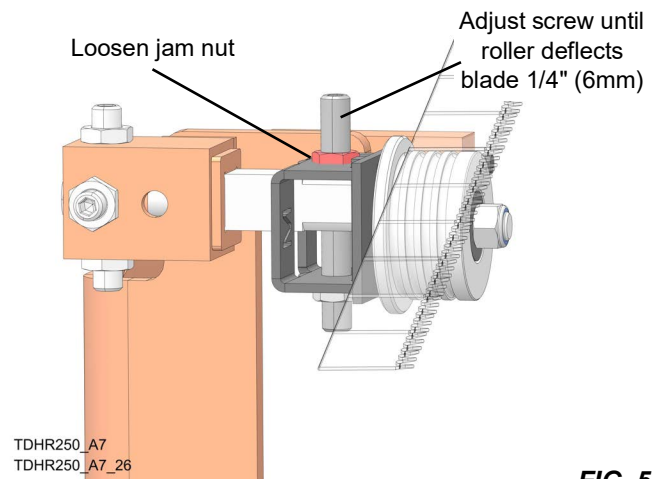

FIG. 5-8
1. Loosen jam nut on top adjustment screw on idle side blade guide roller. See FIG. 5-8